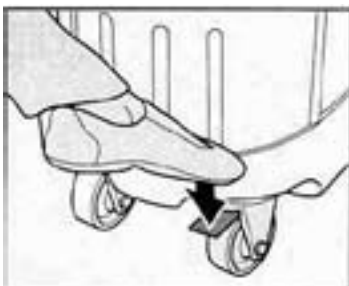

fig. 5
- Press the brake to avoid rolling away (fig. 5)